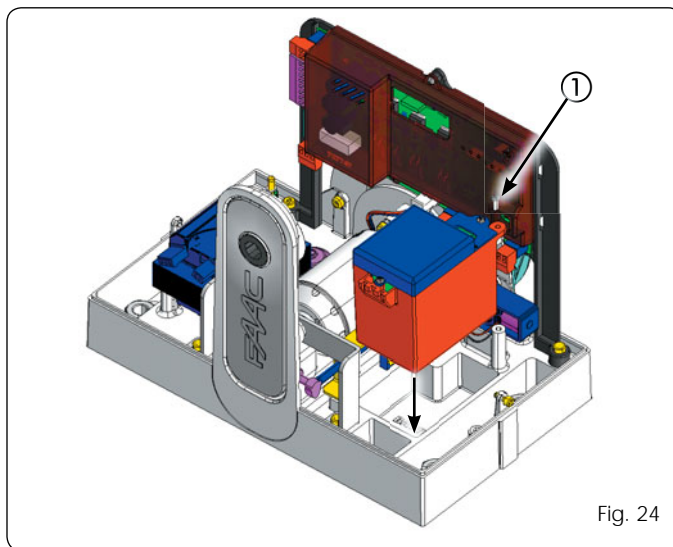

Fig. 24
Install the battery kit as shown in Fig. 24, inserting it in its seat and securing with screw re. ①. Connect it to the appropriate connector on the board (see relevant instructions). Refer to the specific instructions for all information on the battery kit.